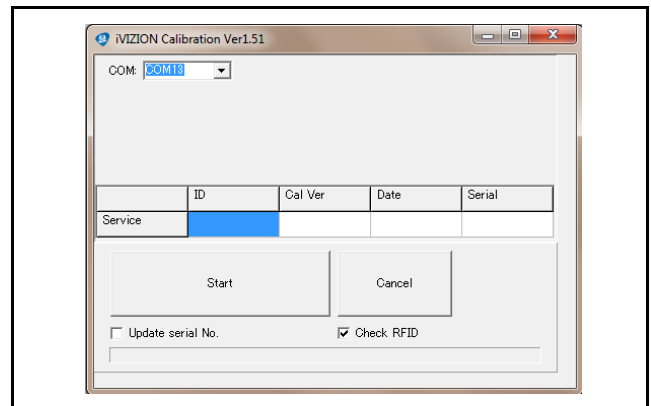

Figure 2: iVIZION Calibration Tool Ver 1.51 (Sensor Adjustment)
7. Click **Start** to begin Sensor Adjustment (Figure 2).